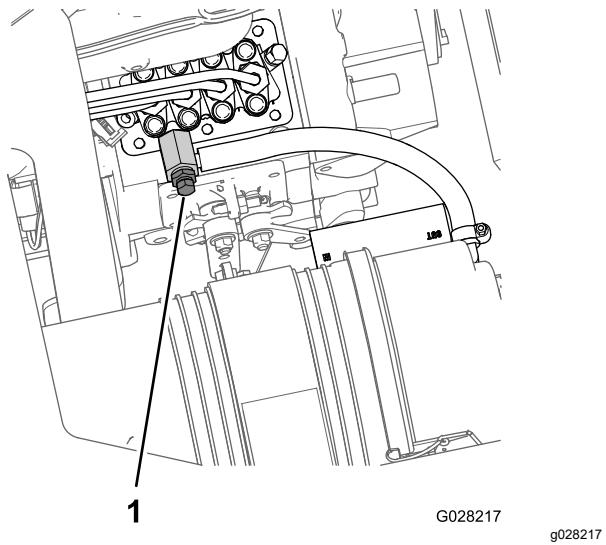

Figure 79
8. Align the drain pan under the fuel-injection pump portion of the engine (Figure 79).
9. Open the air-bleed screw at the fuel-injection pump (Figure 79).
11. Leave the key in the ON position until a solid stream of fuel flows out around the bleed screw (Figure 79).
12. Tighten the bleed screw (Figure 79) and turn the key to the OFF position.